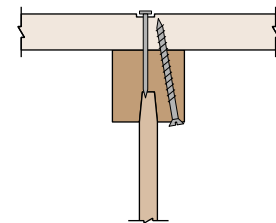

Figure 10
3. If joists are accessible from below, drill a pilot hole larger than the screw shank up through the top flange of the joist and starting into the sheathing. Install a screw through the joist and into the sheathing, pulling the sheathing tight to the joist (Figure 10).
- **If finished floor is already installed**, make access from below and bend the nail away from contact with the joist flange. Re-attach the sheathing to the joist from below (Figure 10, page 4).